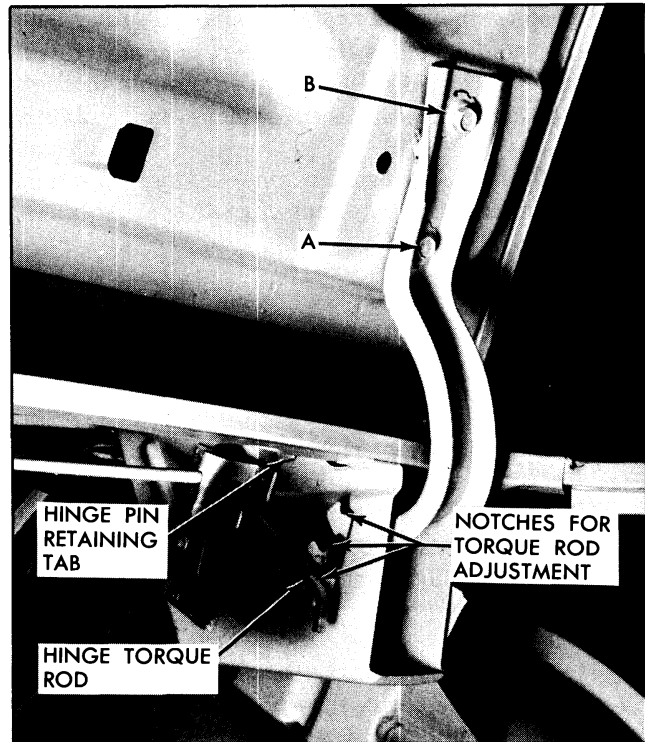

Fig. 15-4 Back Door Hinge and Torque Rod
3. With aid of a helper to hold lid, remove lid attaching bolts "A" and "B" (Fig. 15-4) at both hinge straps and remove rear compartment lid.
1. To adjust compartment lid forward or rearward or from side to side in body opening, loosen hinge strap attaching bolts "A" and "B" (Fig. 15-4)
a. To raise front edge of lid, place shim(s) between lid inner panel and forward portion of one or both hinge straps at "A" (Fig. 15-4).
b. To lower front edge of lid, place shim(s) between lid inner panel and rear portion of one or both hinge straps at "B" (Fig. 15-4).
The amount of effort required to open and close the rear compartment lid is determined by the position of the torque rods in the notches on the in-board face of the hinge boxes (Fig. 15-4). If the torque rod is located in the lowest notch the effort
3. Scribe location of hinge strap on lid inner panel and remove bolts "A" and "B" (Fig. 15-4) securing hinge strap to lid.